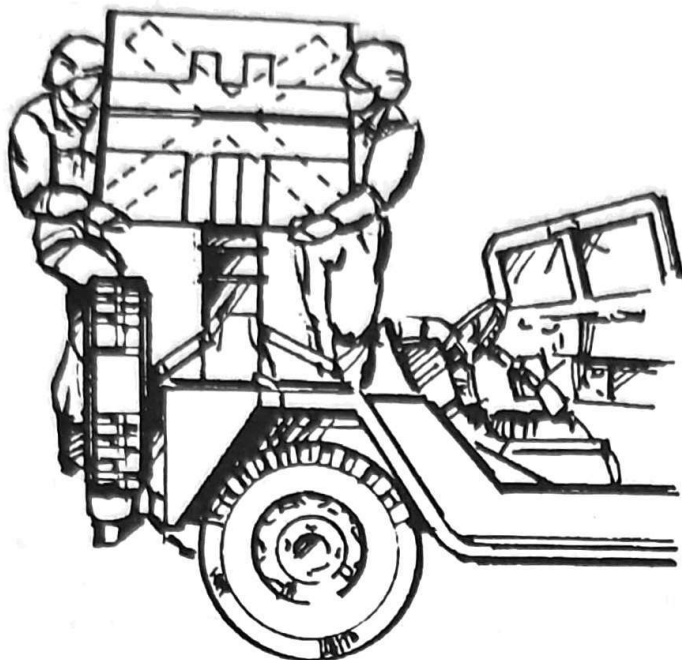

Figure 6-15. Installing and securing target board.
3. Install and secure the target board to the pedestal mount. (See Figure 6-15.)